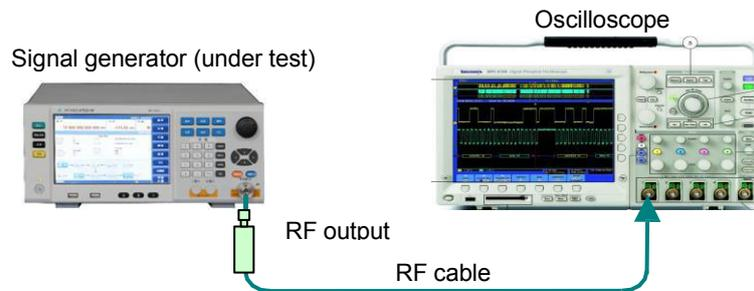

Figure 7.7 Test on rise/fall time for pulse modulation
1. Connect equipment as shown in Figure 7.7, start up the instrument, and warm it up for at least 30 min.